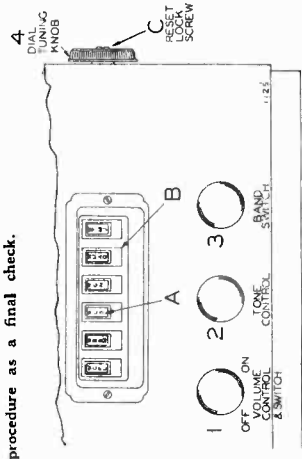

FIG. 2
- There are six pushbuttons on the front of the radio by means of which six stations may be selected (see "B," Fig. 2).
3. On the front of each automatic tuner button an opening is provided for inserting the call letter tabs. (See "A," Fig. 2.)
8. Now rotate the tuning knob to the right (clockwise) as far as it will turn, and with a coin (quarter), tighten the special locking screw ("C") in the center of the tuning knob, (see Fig. 2).